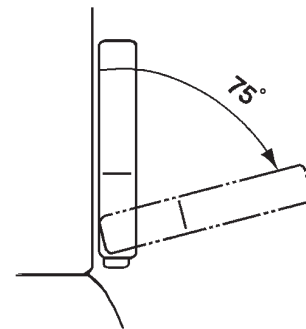

Fig.3-23 Armrest Rotation
(5) Armrest Rotation (**Fig.3-23**)